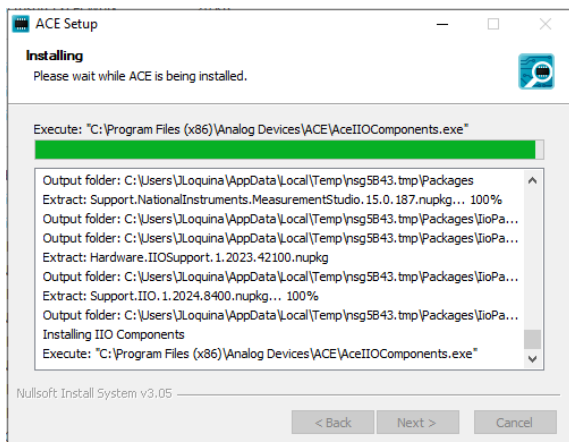

Figure 13. Installation in Progress
8. The installation is in progress. No action is required (see Figure 13).